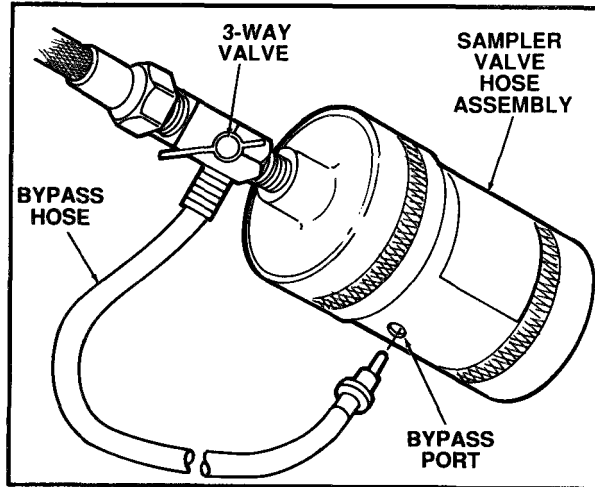

Figure 2.31 Attaching the Remote Sampling Cap and Bypass Hose
- b.** Force the nylon plug into the port located on the side of the sampler base (Figure 2.31).